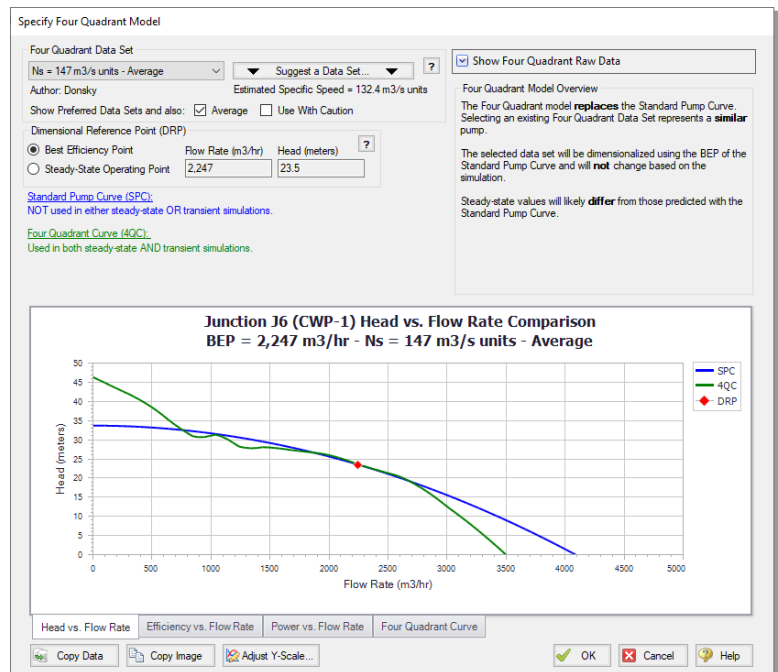

Figure 4.6 The Specify Four Quadrant Model window can be used to select and view options for the dimensionalized four quadrant data set
5. The specific speed is estimated to be 132.4 m³/s units, and the suggested data set is $N_s = 147$ m³/s units. Click Select Suggested Data Set and Close. The $N_s = 147$ m³/s units data set will now be selected, and the dimensionalized curve will be displayed against the previously entered Standard Pump Curve (Figure 4.6).